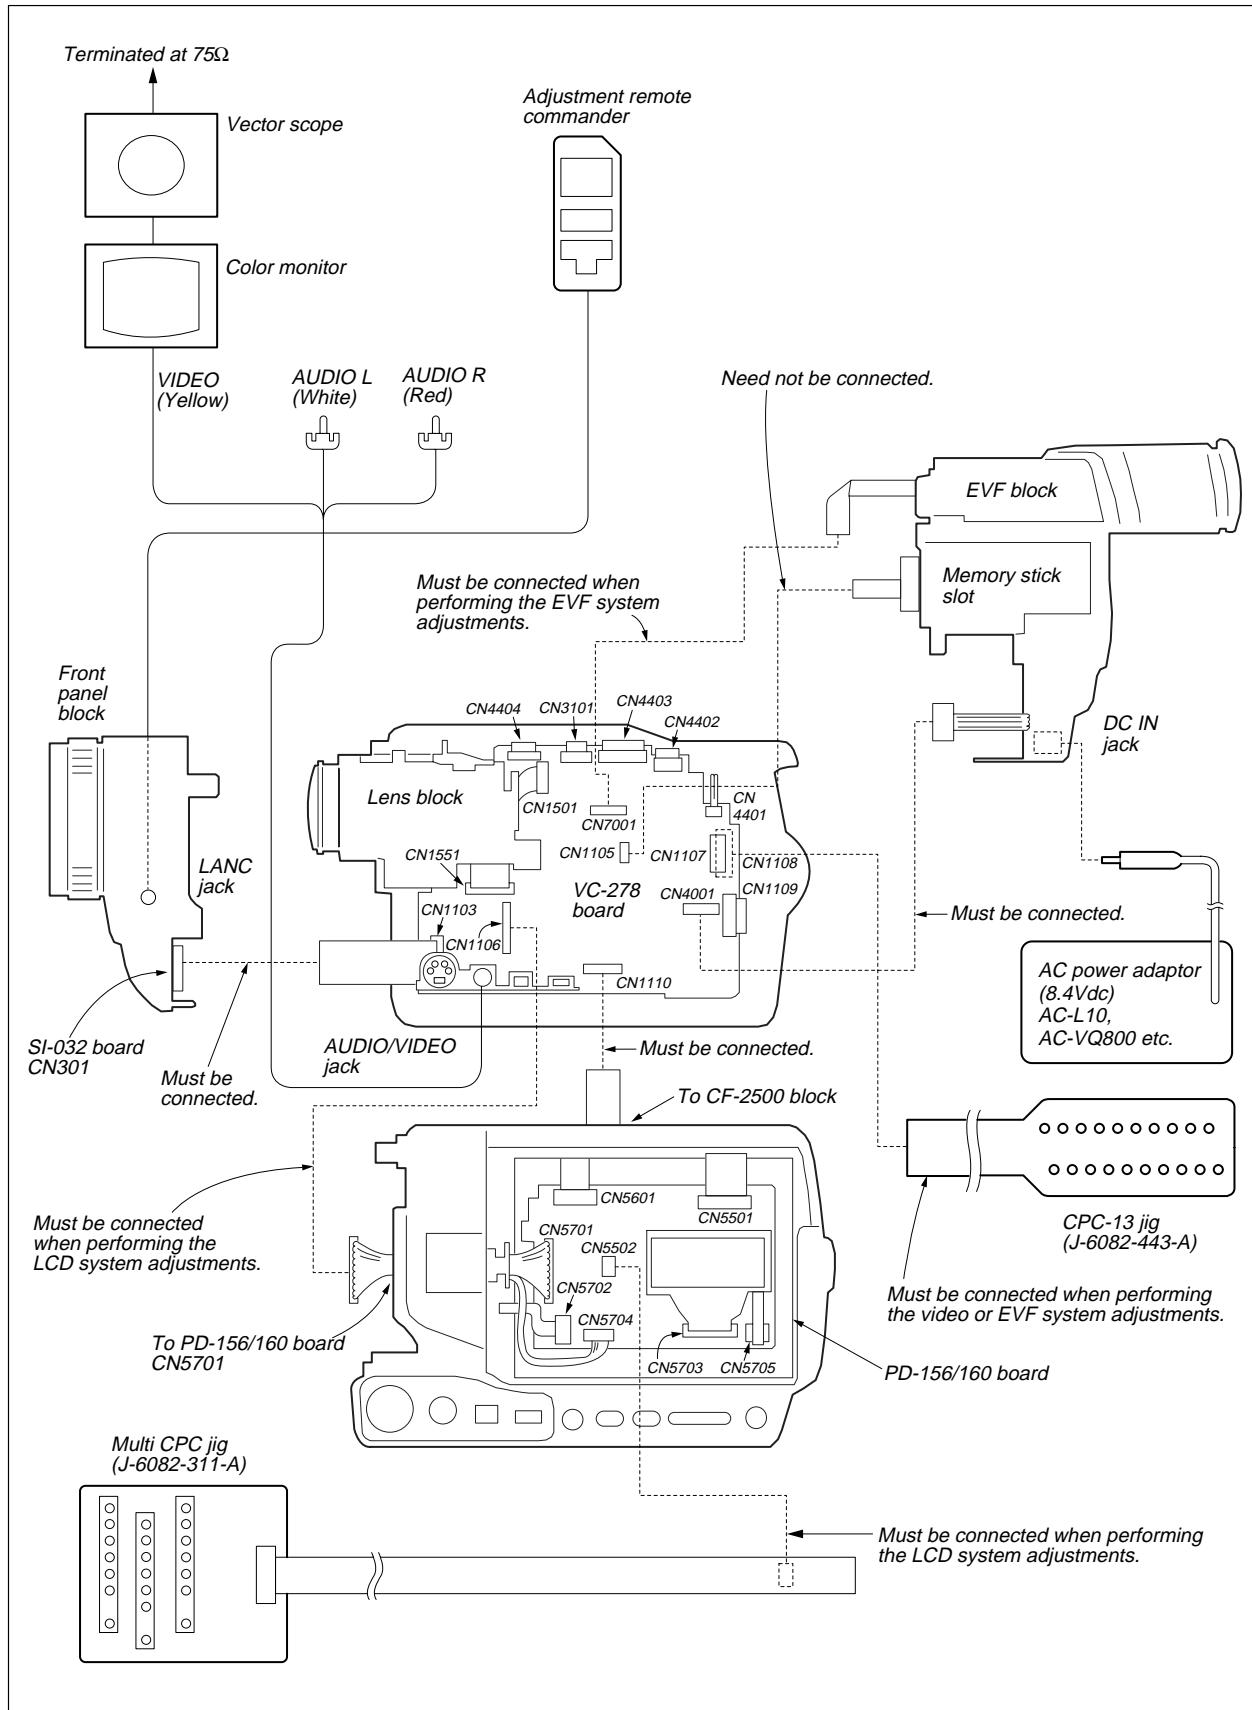

Fig. 5-1-3.
- 1) Connect the equipment for adjustments according to Fig. 5-1-3.
**Note4:** As removing the cabinet (R) assembly (removing CN1110 of the VC-278 board) means removing the lithium 3V power supply (BT001 on the CF-2500 block), data such as date, time, user-set menus will be lost. After completing adjustments, reset these data. But the self-diagnosis data and the data on history of use (total drum rotation time etc.) will be kept even if the lithium 3V power supply is removed. (Refer to “5-4. Service Mode” for the self-diagnosis data and the data on history of use.)